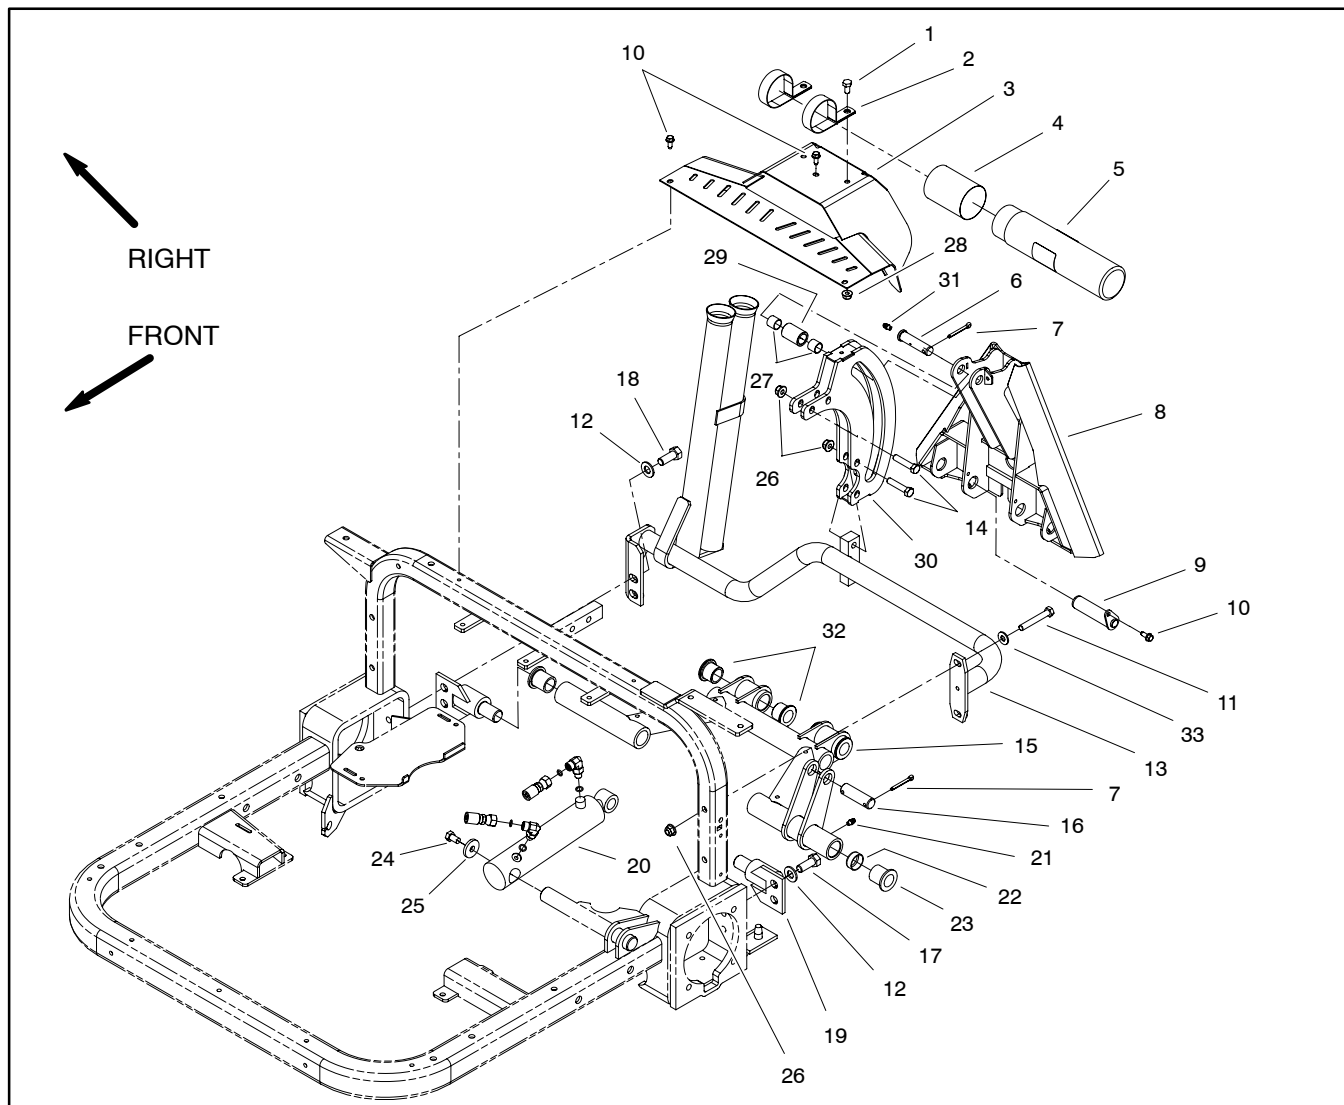

Figure 10
Removal (Fig 10)
3. Remove three (3) washer head screws that secure rear cover to machine. Remove rear cover.
B. Remove two (2) washer head screws (item 10) that secure pins (item 9) to hitch adapter. Pull pins from hitch adapter and hitch tube.
C. Remove one (1) cotter pin from clevis pin (item 6) that secures top of hitch adapter to roller plate. Pull cotter pin from hitch adapter and roller plate.
5. If hitch tube is to be removed from machine, remove one (1) cotter pin from cylinder pin (item 16) that secures lift cylinder to hitch tube. Slide cylinder pin from hitch tube and lift cylinder.
6. Remove remaining hitch assembly components from machine as needed using Figure 10 as a guide.
Installation (Fig 10)
3. Install all removed hitch assembly components using Figure 10 as a guide.